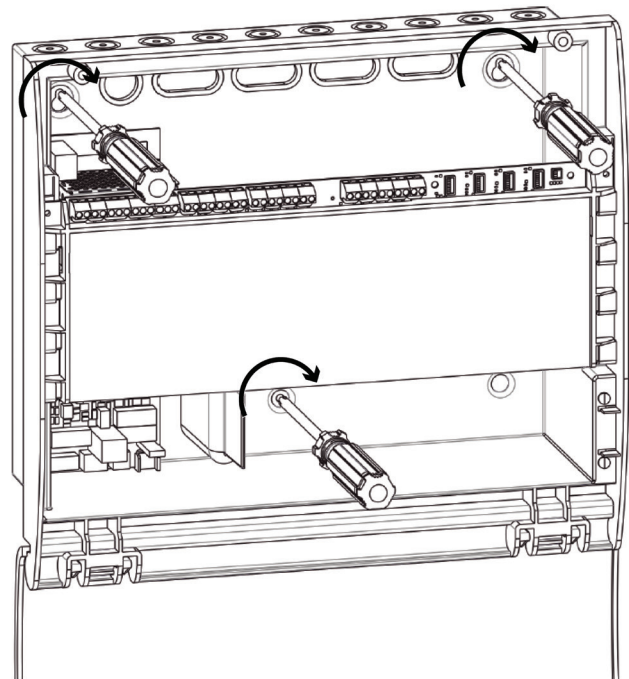

Figure 20. Secure the panel to the wall
- Using the mounting holes in the back box, drill holes into the wall and insert wall plugs and secure the panel to the wall as shown in Figure 20. Ensure any dust is cleaned from the back box.